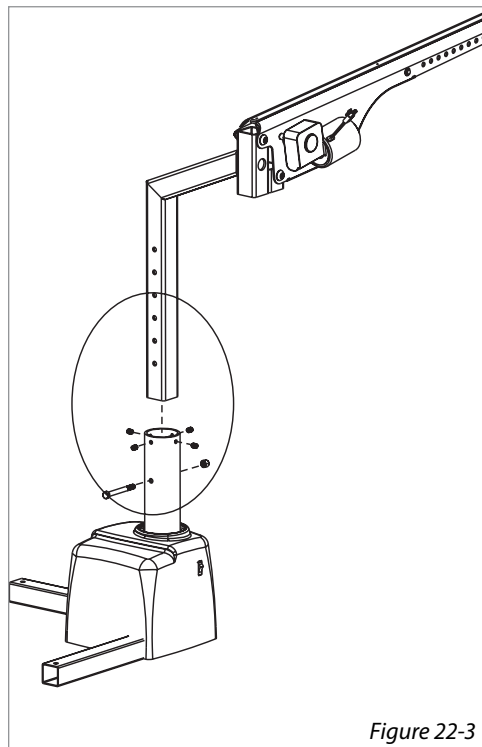

Figure 22-3
- Loosen set screws (x4) [Figure 22-3]